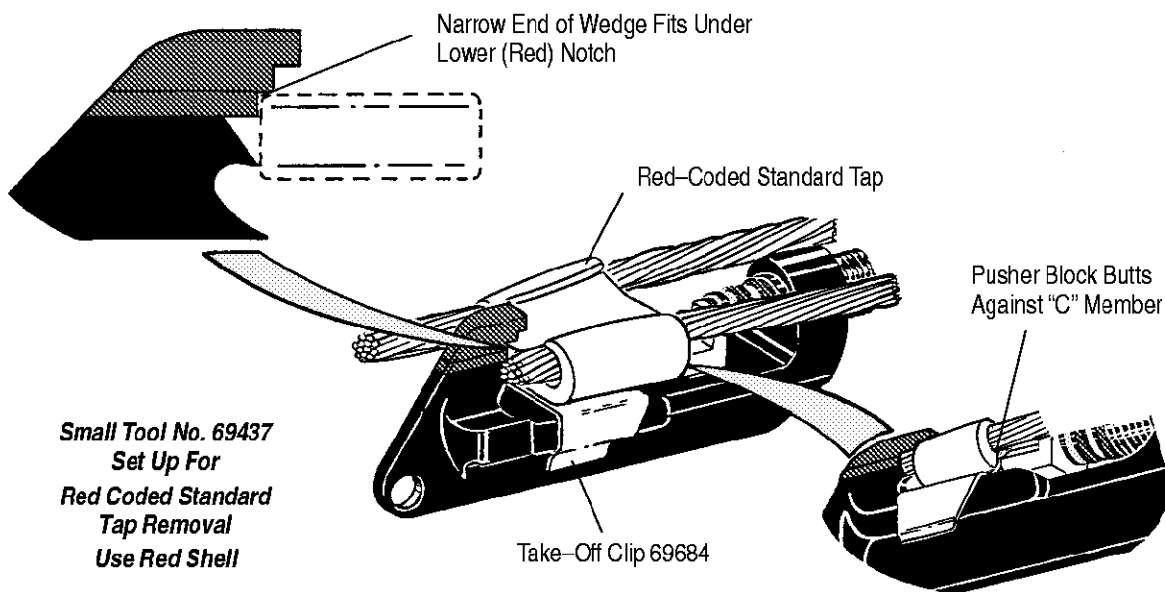

Figure 31
-  Use take-off clip No. 69684 and red shell for removal of small red coded taps. Narrow end of wedge fits under lower red notch of tool and pusher block butts against "C" member as shown in Figure 31.
1. Hook AMPACT tool over tap assembly with OPEN SIDE OF "C" MEMBER FACING AWAY FROM TOOL PLATFORM, as illustrated in Figures 31 through 34.
- Wedge must be in the proper notch of the tool head, and take-off clip must be in proper position. Refer to Figures 31 through 34.